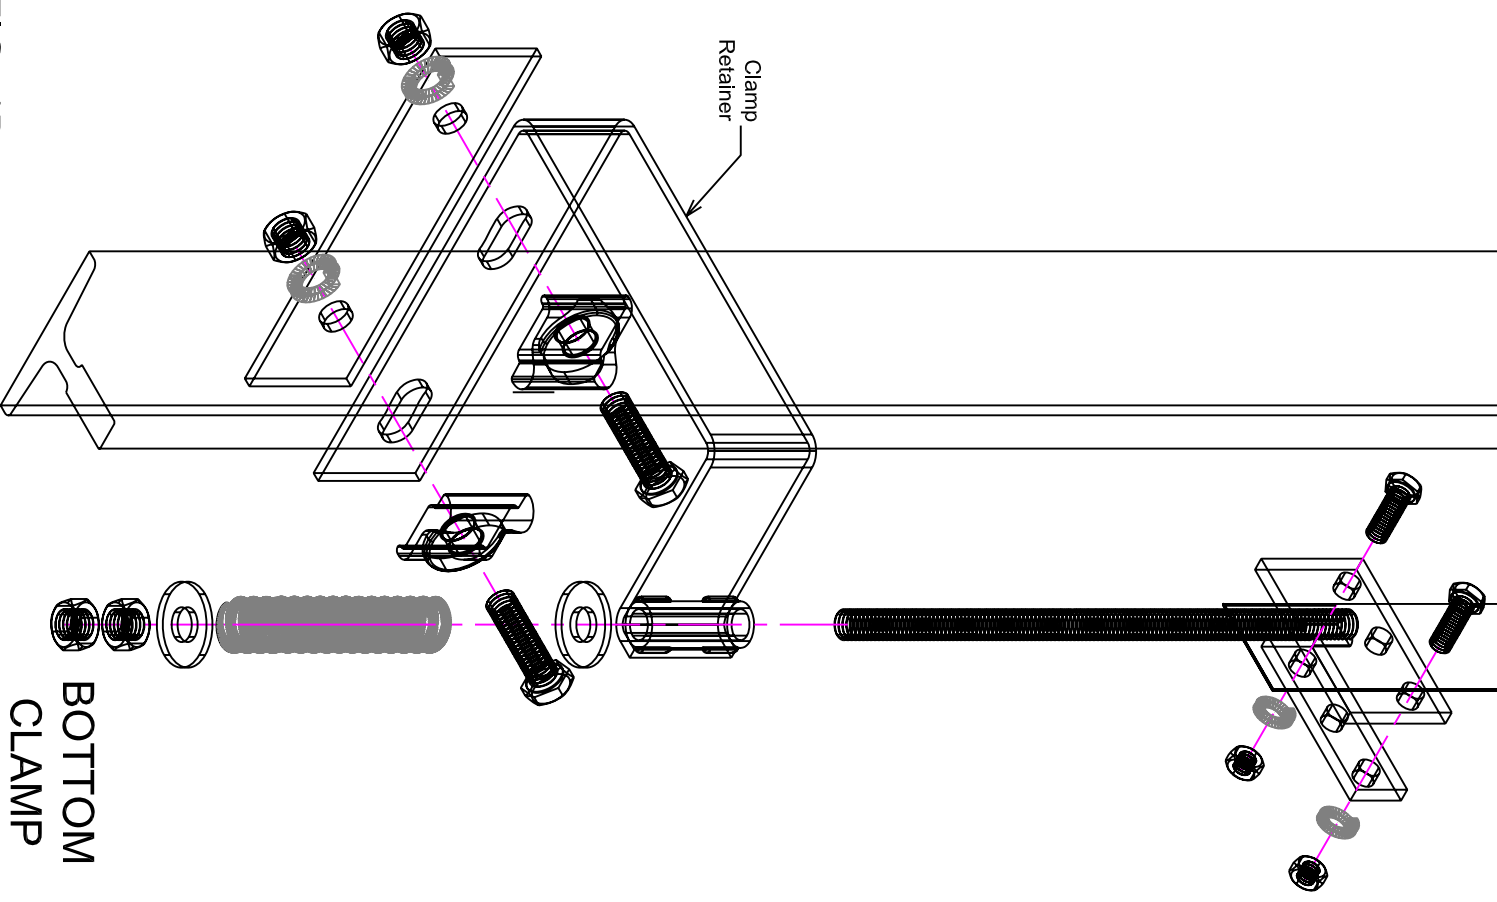

FIG. 1B
6. Install the bottom clamp into the bottom clamp retainer tube with washers, spring and hex nuts as shown in FIG. 1B. For now, have the hex nuts about 1" from the end of the threaded rod. Put a wedge of scrap material between the clamp and the clamp retainer to compress the spring about 1/2".